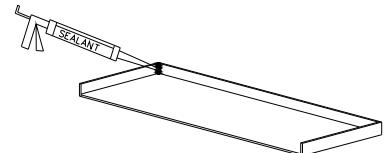
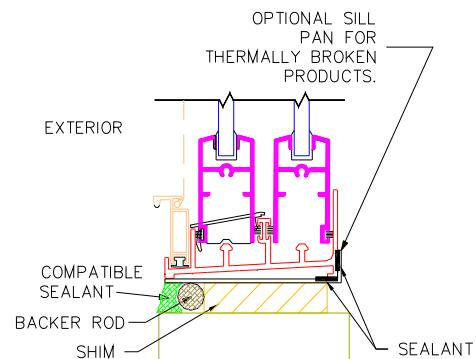

Figure 8A
Figure 8B
4. When product is thermally broken or I-mulled to another product and requires a sillpan, apply sealant in all corners or seams of sill- pan to make pan watertight (See Fig. 8A). Insert sillpan into the opening and set on leveled shims and in a full bed of sealant. Apply (2) continuous beads of sealant to the inside corner (frame side) of the sillpan (See Fig. 8B). These beads of sealant will seal against the interior corner of the installed window frame. Do not apply sealant to the exterior edge of the sillpan.
5. Insert the window into the opening and onto the sillpan. Stuff closed cell backer rod (size dependant on shim space and determined by installer) in cavity and seal remaining cavity (See Fig 8B). Shim as necessary, cross measure and adjust as necessary to achieve a plumb, square and level condition. Ensure that there are no crowns and dips in the head, jambs or sill. Secure the full perimeter of the window with corrosion resistant # 8 x 2" Pan Head Sheet Metal Screws with masonry anchors, if required, at 12 inches (maximum) on center. Note: Single and Double Hung Window Jambs are to be anchored with countersunk # 8 x 2" Flat Head Sheet Metal Screws with lead masonry anchors, if required, at 12 inches (maximum) on center. Fasteners should be staggered alternately from towards the exterior side of the frame to towards the interior side of the frame to ensure uniformity. Hinged and pivoted windows require additional fasteners located within 1 inch each side of the hinge or pivot. Seal all fastener heads during installation with compatible sealant.